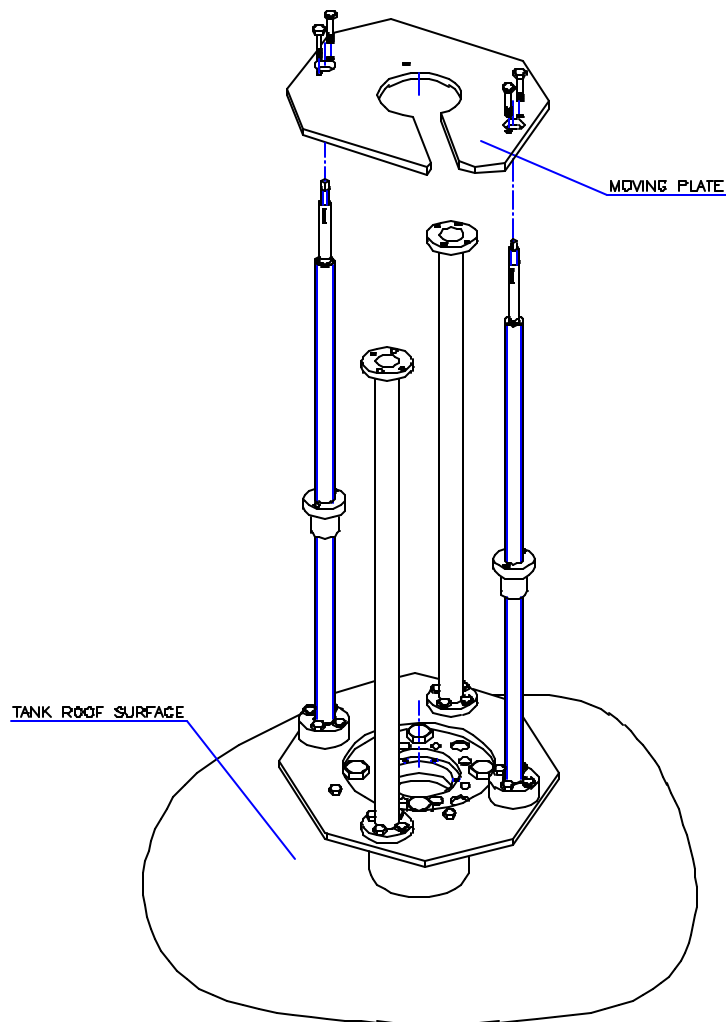

Figure 6
1. Ensure that each of the pre-installed **Moving Plate Supports** on each of the **Screw Assemblies** is located approximately half way along the assembly (see *Figure 6*) and that they are level with each other.